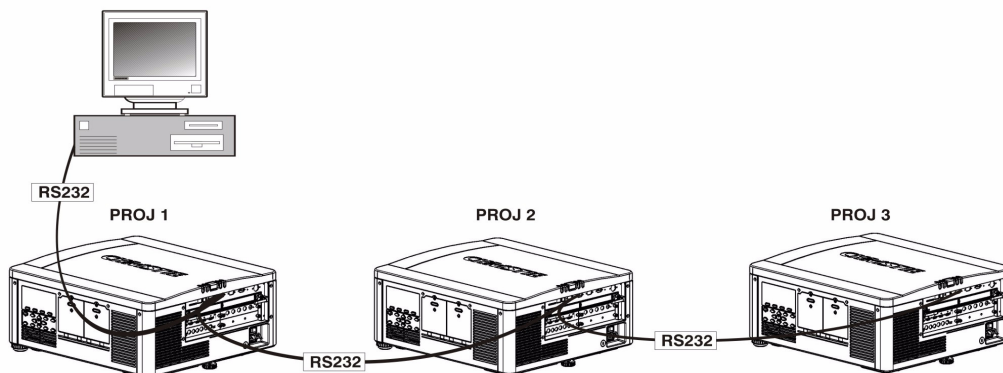

FIGURE 2-21 - RS232 NETWORK
3. Continue this pattern of connection with all projectors in the network. **NOTE:** The last projector in the network will only have a connection to the RS232 IN connector, see Figure 2-21 - RS232 Network.